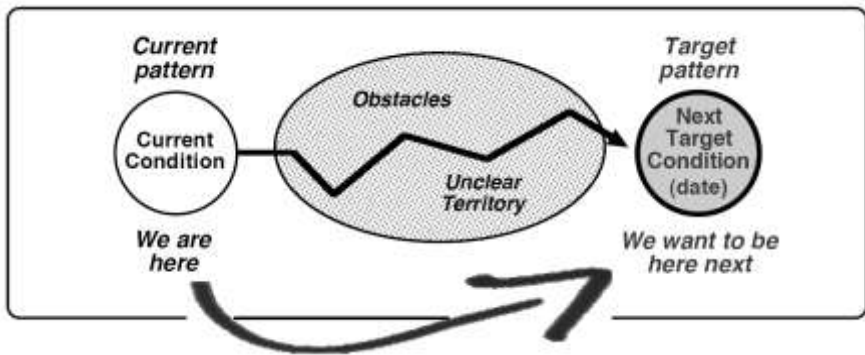

Figure 1-5: Setting the Next Target Condition
Mike Rother, author of *Toyota Kata*, described this process as an individual having an improvement Kata (IK) and a coaching Kata (CK). It implies, correctly, that we need a coach. The question is, "Why do we need a coach?" Mike suggests that the right process is one where the coach teaches the learner how to make their way through the "unclear territory" towards the "next Target Condition" (see figure 1-5). It would follow then that as you achieve your many target